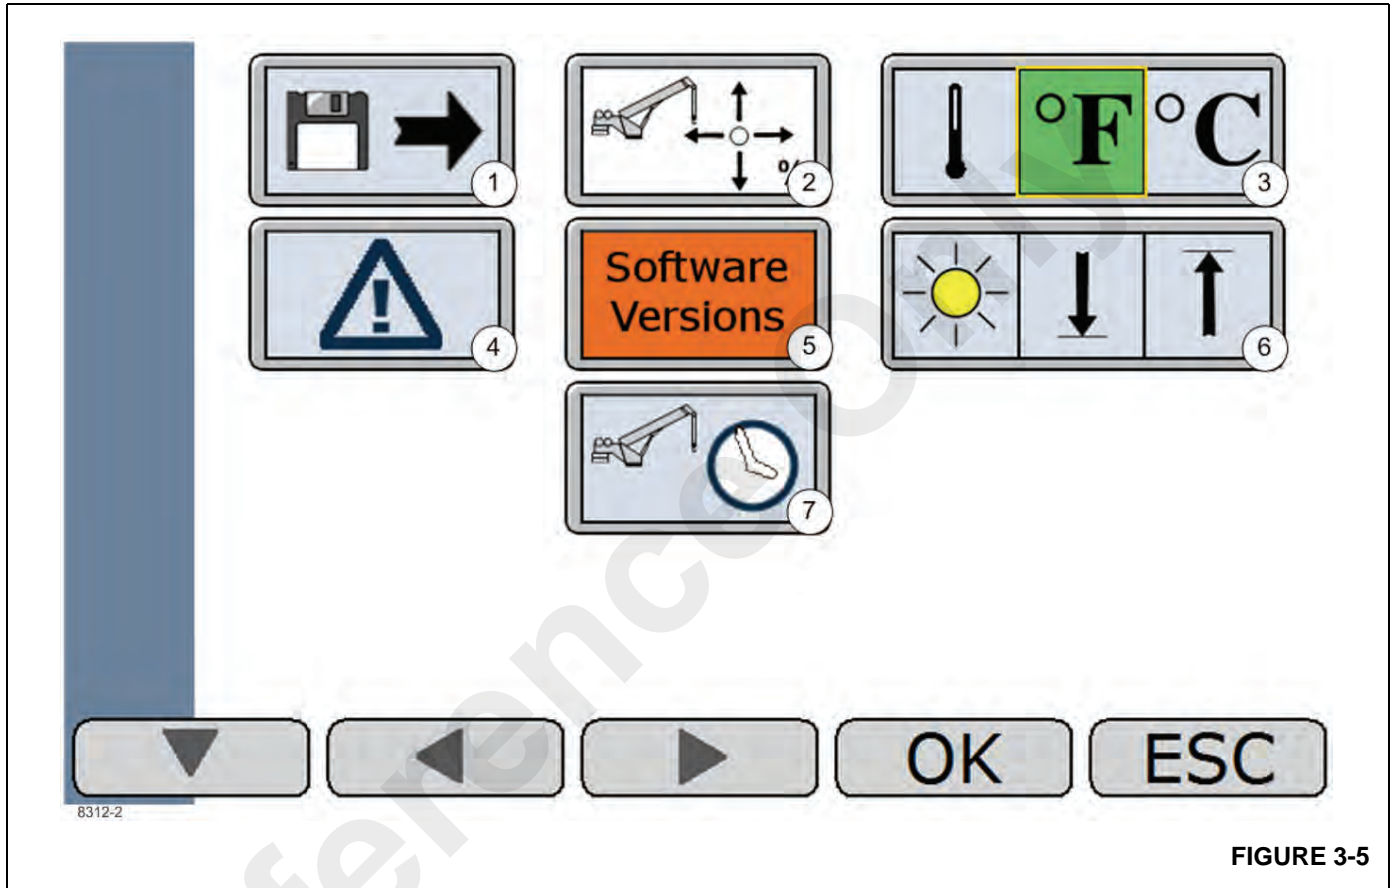

FIGURE 3-5
The menu screen (Figure 3-5) allows the operator to view/change presets, change temperature units and brightness levels, view active faults, view the software versions, and check crane function usage time. Navigation of this screen is through the directional buttons at the bottom of the screen.
Load Operator Presets (1) (Figure 3-5)